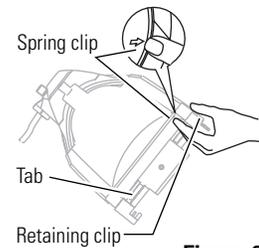

Figure 2
5. Press the spring clip with your finger to release the lens (**Figure 2**).
1. Position the fixture with the front of the unit (the lens side) facing you, and tilted slightly (**Figure 2**).